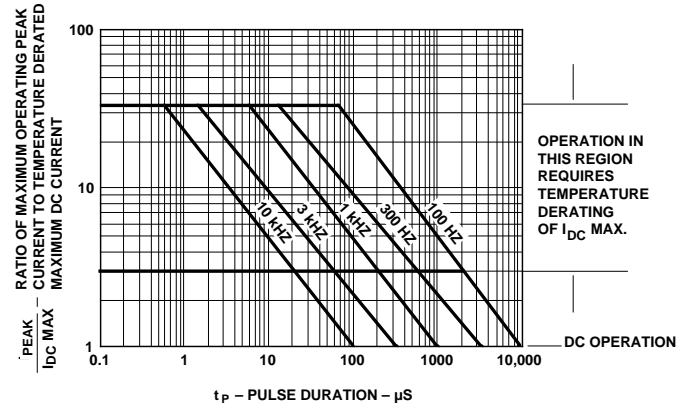

Figure 7. Maximum Allowed Peak Current vs. Pulse Duration – Green.
3. See Figure 7 to establish pulsed conditions.